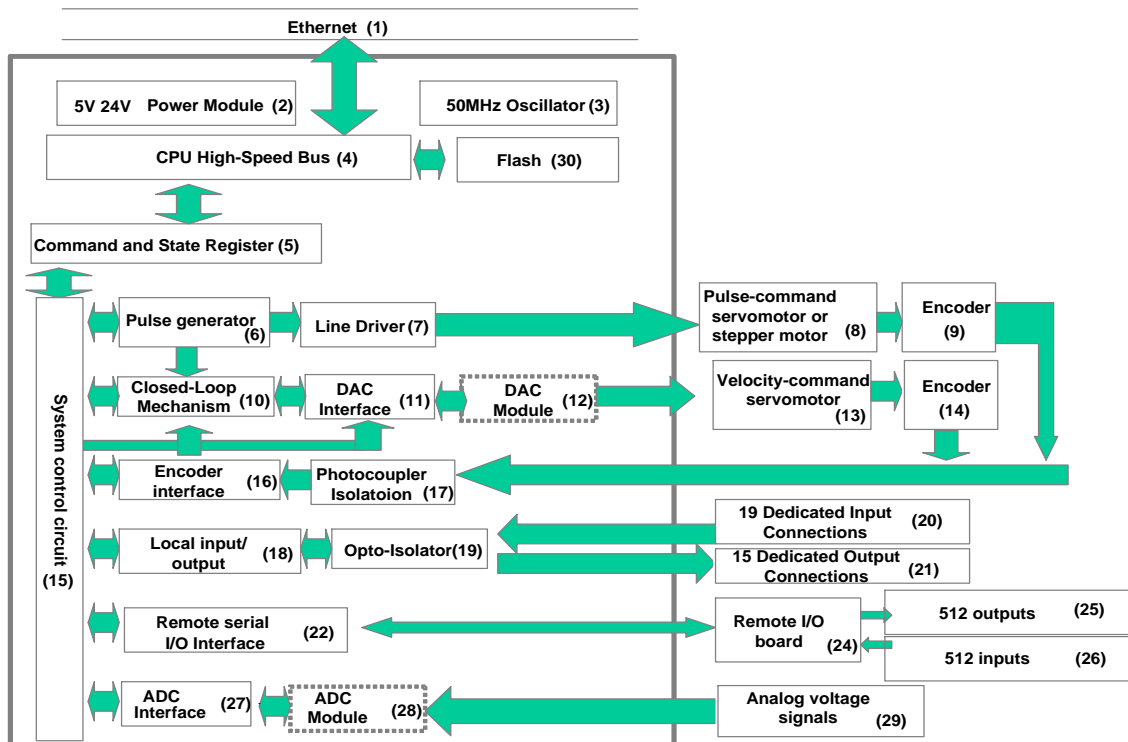

Fig.1-4 Diagram of Functional Block Diagram of IMP-6000S
Referring to the system block diagram of Fig. 1-4, the *CPU High-Speed Bus (4)* delivers motion control commands to the internal *Command and State Register (5)* and *System Control Circuit (15)* in order to drive the internal *Pulse generator (6)* to evenly generate the pulses (pulse command) (three formats selectable: A/B phase, CW/CCW, and Pulse/Direction). The pulses pass through the *Line Driver (7)* (MC3487), as differential signals, to the external motor driver to drive the *Pulse-Command Servomotor/Stepper Motor (8)*. Signals from the motor's *Encoder (9)* enter the *Encoder Interface (16)* via the *Photocoupler Isolation (17)* and are stored into the *Command and State Register (5)* through the *System Control Circuit (15)*.
Referring to the system block diagram of Fig. 1-4, the *CPU High-Speed Bus (4)* delivers motion control commands to the internal *Command and State Register (5)* and *System Control Circuit (15)* in order to drive the internal *Pulse generator (6)* to evenly generate the pulses (pulse command), which will be sent to the *Closed-Loop Module (10)* while the feedback signals from the motor's *Encoder (14)* (differential signals) are transmitted to IMP-6000S. The signals are received and isolated by the *Photocoupler Isolation (16)* prior to entering the *Encoder Interface (15)* for signal processing (including filtering) and then fed into the *Closed-Loop Module (10)* for calculation. The *Closed-Loop Module (10)* carries out the feedback control based on the PID and FF algorithm (Note 1) according to the number of pulses from the *pulse generator (6)* and the number of pulses fed back from the encoder. The resultant signal will drive the *DAC Module (12)* (including AD1866R and TL074 amplification stage) of **IMP-6AB** through the *DAC Interface (11)* (D/A→ digital to analog) to generate a voltage signal between -10V and +10V (velocity command). In the end, the velocity command is sent to the *Velocity-Command Servomotor (13)* (Note 2) through IMP-6AB.
Referring to the system block diagram of Fig. 1-4, when receiving the user's input/output command, IMP-6000S carries out data reading or writing operation at the *Local I/O (18)*. The output signals pass through the *Photocoupler Isolation (19)* and are amplified in driving capability before they are connected to an external device. The input signals also pass through the *Photocoupler Isolation (19)* and then are transmitted to the *Local I/O (18)*.
Referring to the system block diagram of Fig. 1-4, IMP-6000S is connected with the remote I/O board (IMP-ARIO / IMP-ARIO64 (Optical)) developed by MSL of ITRI. By using optical fiber transmission and the asynchronous master/slave serial communication method together with a plurality of *Remote I/O Control Boards (24)* series-connected to the *Remote Serial I/O Interface (22)*, the system can be expanded to accommodate up to *512 outputs (25)* and *512 inputs (26)*.
Referring to the system block diagram of Fig. 1-4, 8 channels of *analog voltage signals (29)* (ranging from -5V to 5V or from 0 to 10V) can be connected to the *ADC module (28)* of IMP-6AB, in order for IMP-6000S to read the voltage values (in 14-bit resolution) through the *ADC Interface (27)*.
Referring to the system block diagram of Fig. 1-4, the command received by the *System Control Circuit (15)* is converted into an analog voltage command by the *DAC Interface (11)* and by the *DAC Module (12)* of IMP-6AB and then output via the adapter (IMP-6000S-1 or IMP-6000S-2). IMP-6000S provides 8 channels of analog voltage output, the output voltage ranging from -10V to +10V. Each of these 8 channels of analog voltage output can work with an encoder feedback and a pulse output control in order to perform hardware closed-loop control. When a DAC channel is not used for hardware closed-loop control, it can be used separately.